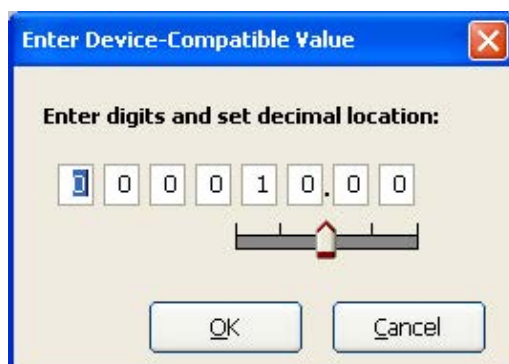

Figure 4.33—Data-entry screen for pulse output scale factor
3. Click on the pencil icon next to the scale field to open a data-entry window (Figure 4.33, page 70), and enter the scale factor. Adjust the decimal position, if necessary, using the slide bar. The scale factor sets the volume increment that will cause a pulse output to occur. The unit for this factor is determined by the unit set for the volume display.